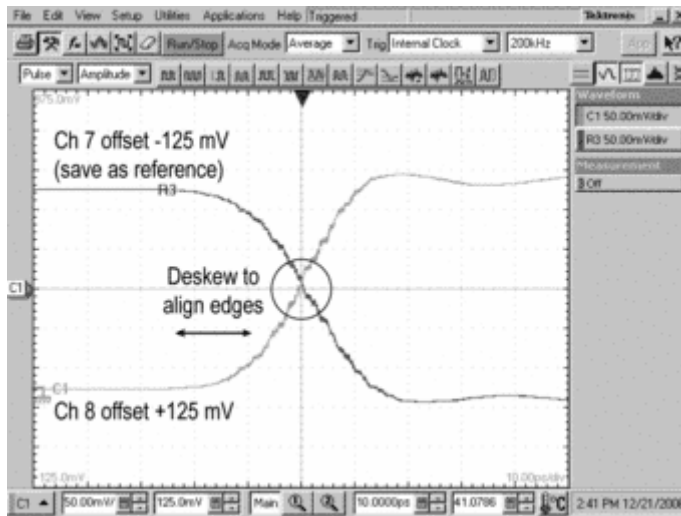

Figure 32: Deskew the TDR steps
11. Adjust Ch 4 to position the step at 0 V, and then enter  $-125$  mV offset to position the step as shown. (See Figure 32.) Save this waveform to a reference.
14. Enter 125 mV offset to position the step as shown. (See Figure 32.)